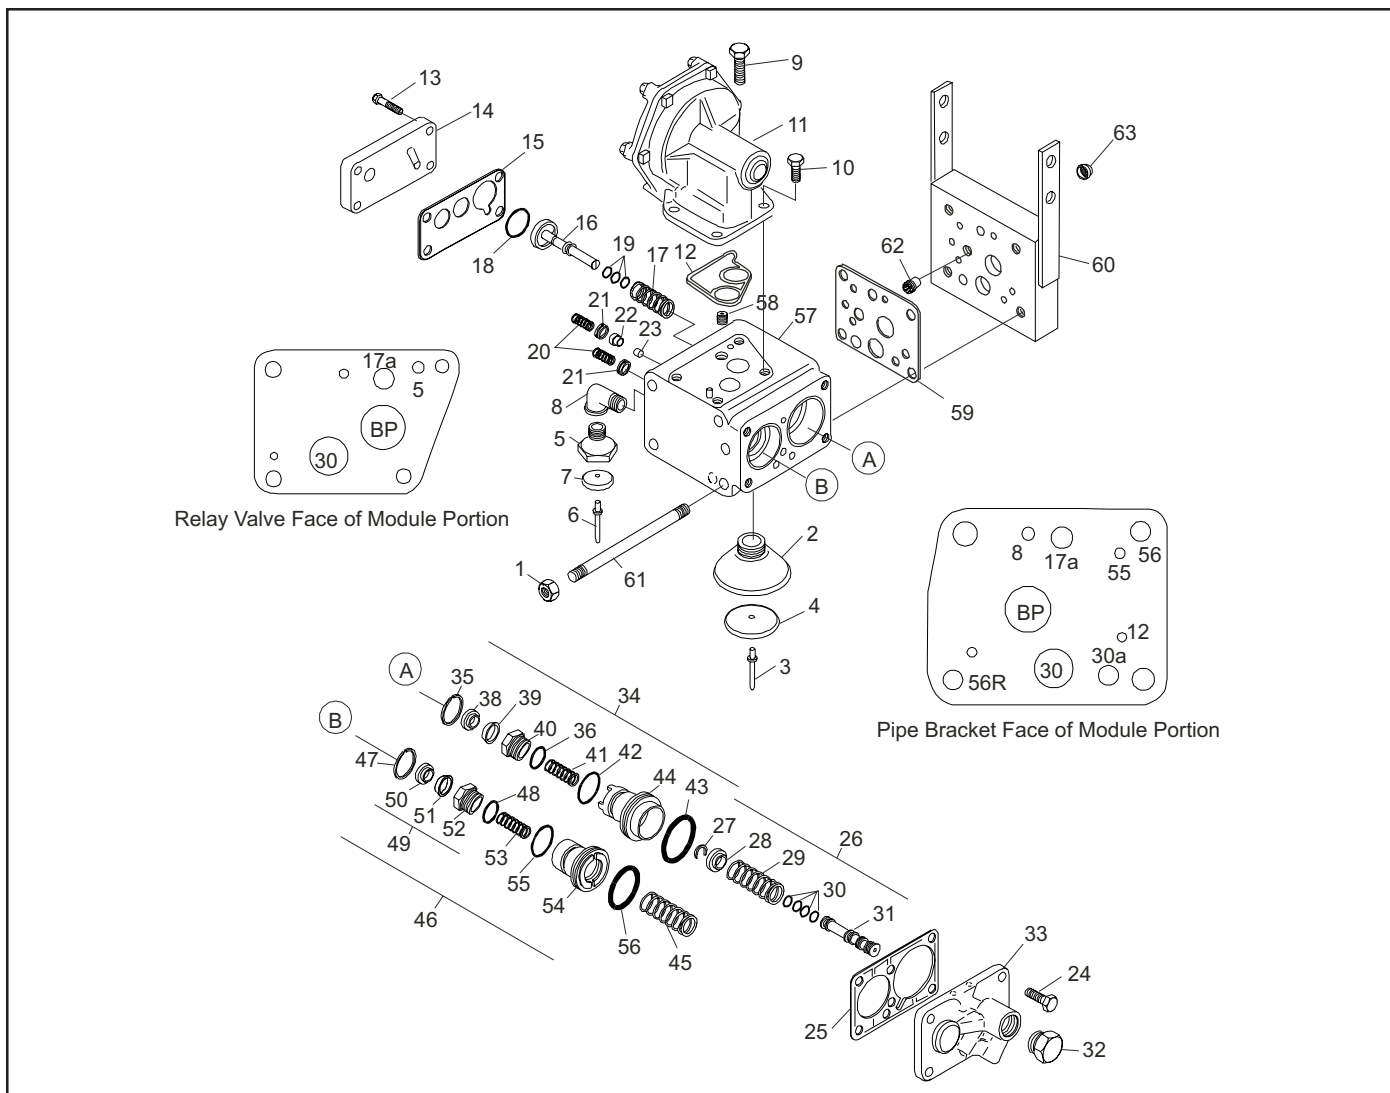

Figure 3 - Exploded View
8.6 See Figure 3. Remove ALL free dirt from all exterior surfaces of the 30-CW Module by wiping with a clean, dry, lint-free cloth or rag, or by blowing the Module clean with a low pressure jet of clean, dry air.
See Figure 3
9.2.2 STRAINER WITH FELT (See Figure 3)
9.2.3 BODY (See Figure 3)
⚠ 9.3 ASSEMBLY (See Figure 3)